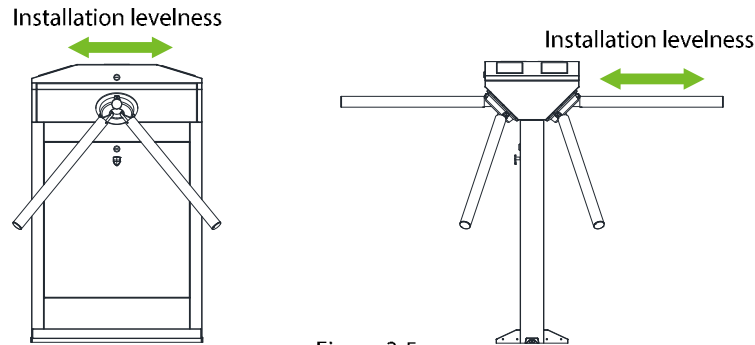

Figure 3-5
3. Put the turnstile on the mounting plate and tighten the screws. Apply screw securing glue before using and putting gaskets on the screws to adjust the direction of the turnstile. If the tripod turnstile is not level, you can place gaskets to adjust, as shown in figure 3-5.